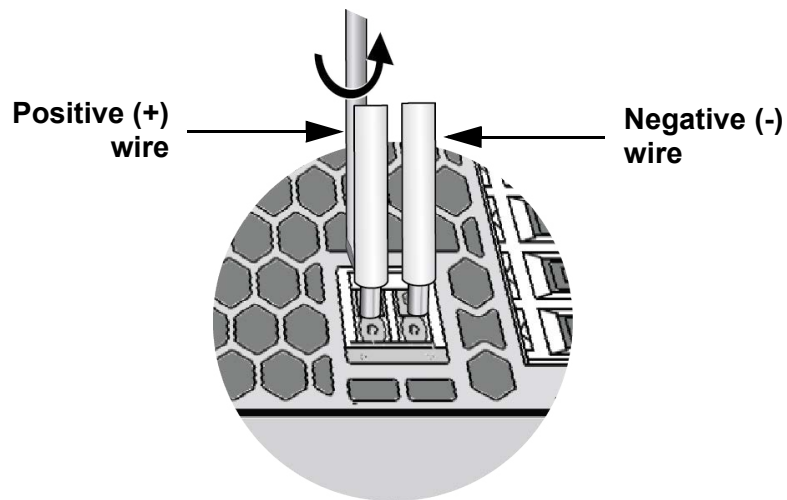

Figure 15. Wiring the RC Connector
2. Loosen the two RC connector screws on the top panel and insert the positive and negative wires into the connectors. Refer to Figure 15.